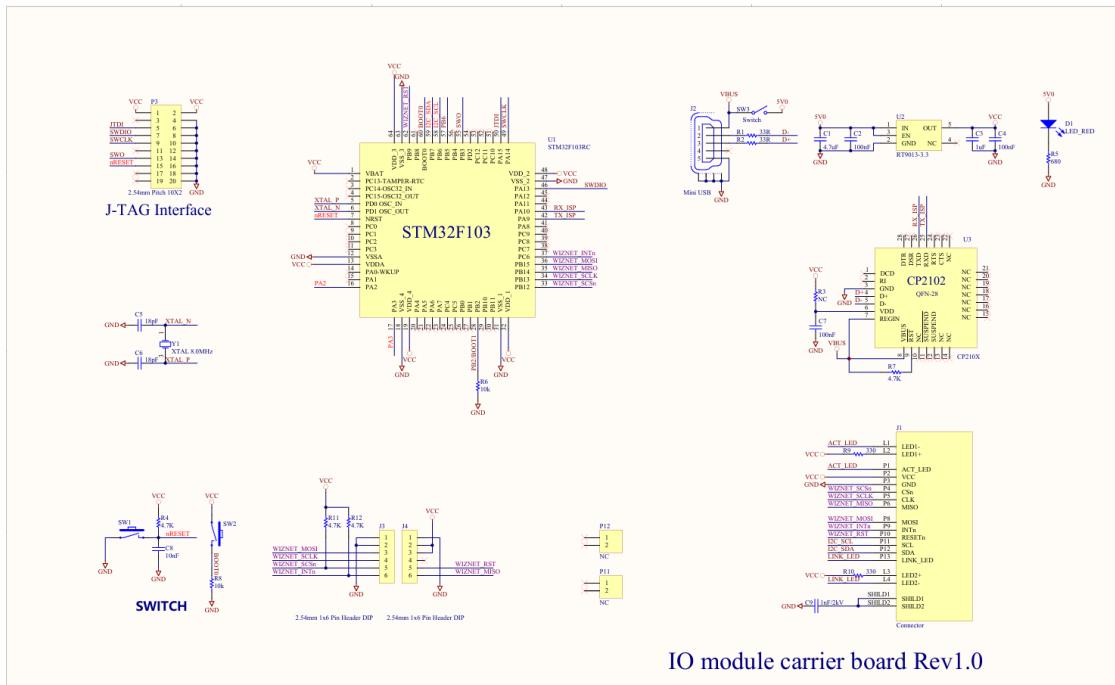

Figure 2-4 Reference design schematic diagram of the peripheral circuit of WIZ-IP51S
- The reference design schematic diagram of the peripheral circuits for WIZ-IP51S is shown in Figure 2-4.